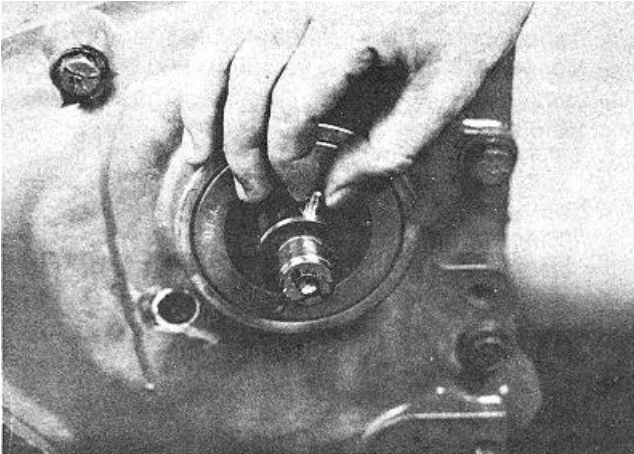

Fig. 14-44 (N114269). Install The Pin Into The Accessory Drive Shaft.
1. Install the tapered end of the pin into the accessory drive shaft, Fig. 14-44.